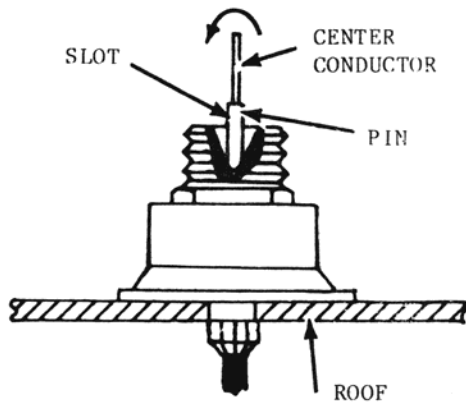

FIGURE 13
11. Screw the mounting adapter snugly on the mounting assembly (Figure 13), threading the conductor through the hole in the adapter pin.
12. Bend the exposed wire back along the slot in the side of the pin as shown in Figure 13.